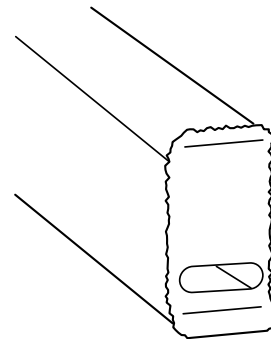

Fig. 3.4 — Remove Remaining Portion of Impact Bar in Frame Rail
- 6 Extract pieces of the impact bar left attached to the rail ends (Fig. 3.4). Keep the perimeter and shape of the rail end (fishmouth) as original as possible.